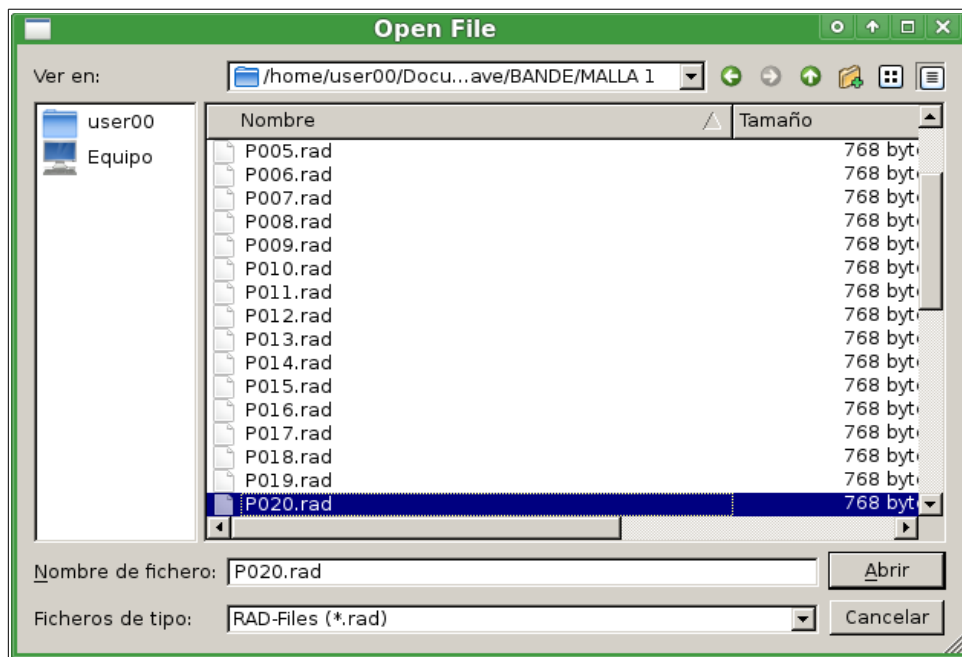

Figure 3. Selecting .rad/.rd3 files.
**Load .rad file (2D)** in the initial display opens a window to select the profile (figure 3).